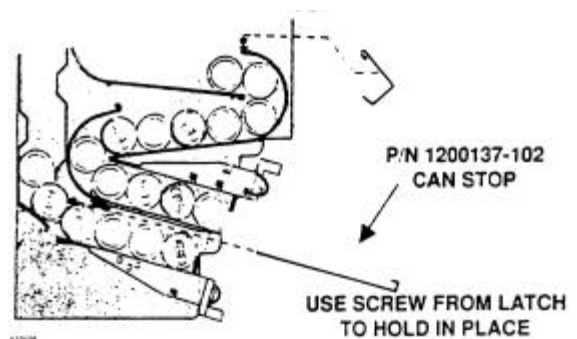

Figure 11
4. Insert the Lower Can Stop (P/N 1200137-102). Slide the can stop all the way in and screwing down the fastener. See **Figure 11**.